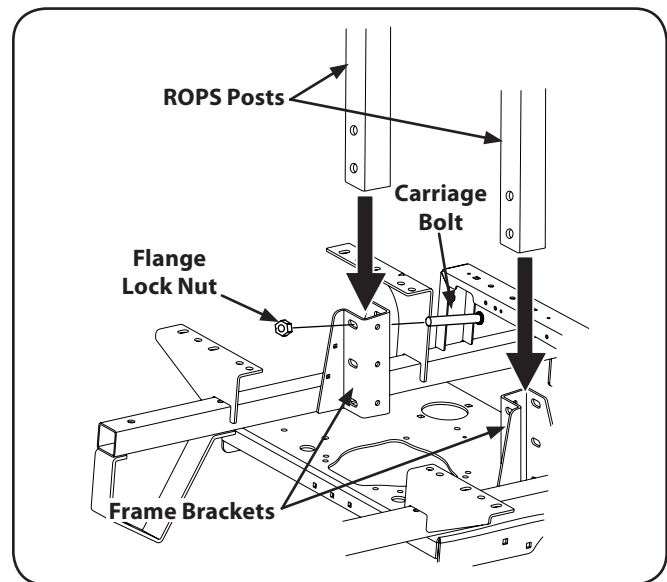

Figure 3-2
1. Insert each of the lower section ROPS tubular "posts into the brackets welded to the unit main frame. See Fig. 3-2.
NOTE: The ROPS pivot holes should be positioned toward the rear of the unit. See Fig. 3-2.
2. Insert the carriage bolts (½-13 x 3.25) (one per side) from the front toward the rear. See Fig. 3-2. Alternately from the rear toward the front if access is restricted.
3. Three holes are provided on each side. Use the Upper hole and one of the other two remaining holes that is easily accessible. Install the flange lock nuts, but do not tighten. See Fig. 3-2.
- Tighten the frame mounting hardware to 80-90 lb.-ft. torque. See Fig. 3-2.